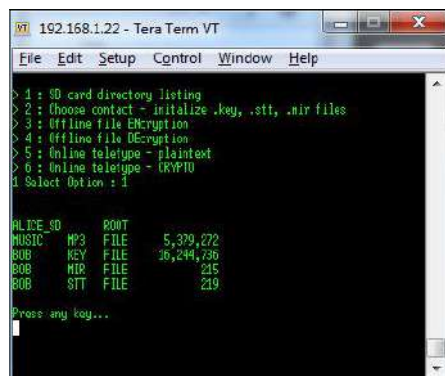

Figure 4. Select option 1 to list the contents of the root directory.
4. She lists the contents of the root directory (option 1, **Figure 4**).